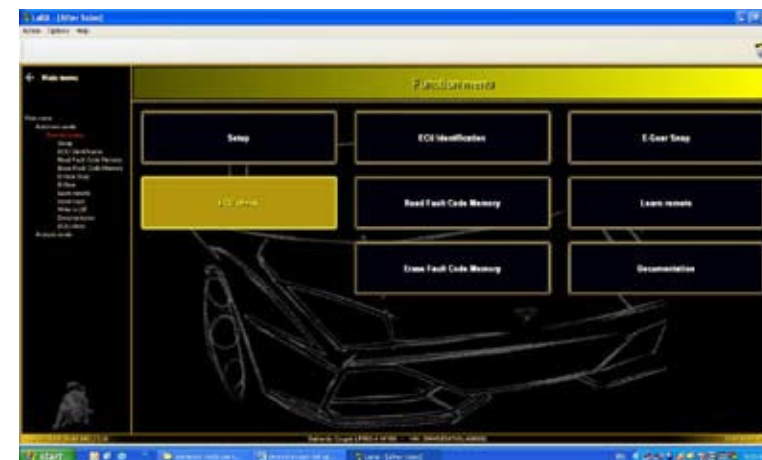

Fig.103
1. Select "ECU check" (**Fig.103**) from the "Menu Functions" screen (Automatic mode).